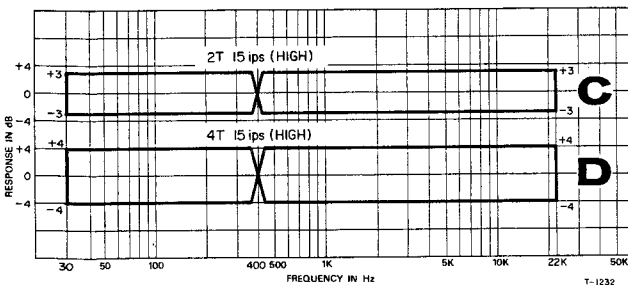

Fig. 8-7 Frequency Response (C) (D) – PLAYBACK –
- 19. Play Tape and compare reading on VTVM with the response limits given in Fig. 8-7 (C) (D).